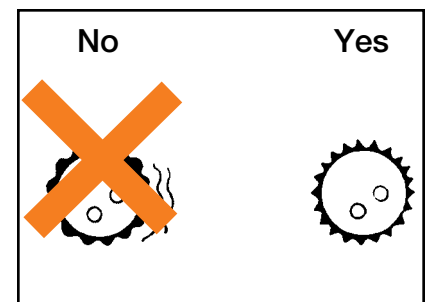

Figure 50
**⚠ WARNING!: Inspect clamp. If cam teeth are worn, or if clamp is damaged, do not use clamp (Fig. 50).**